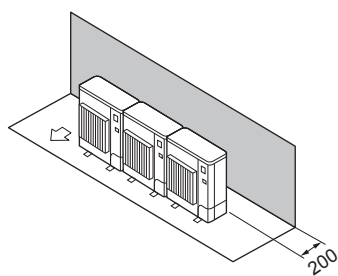

Fig. 3-12
- ① Obstacles at rear only (Fig. 3-12)